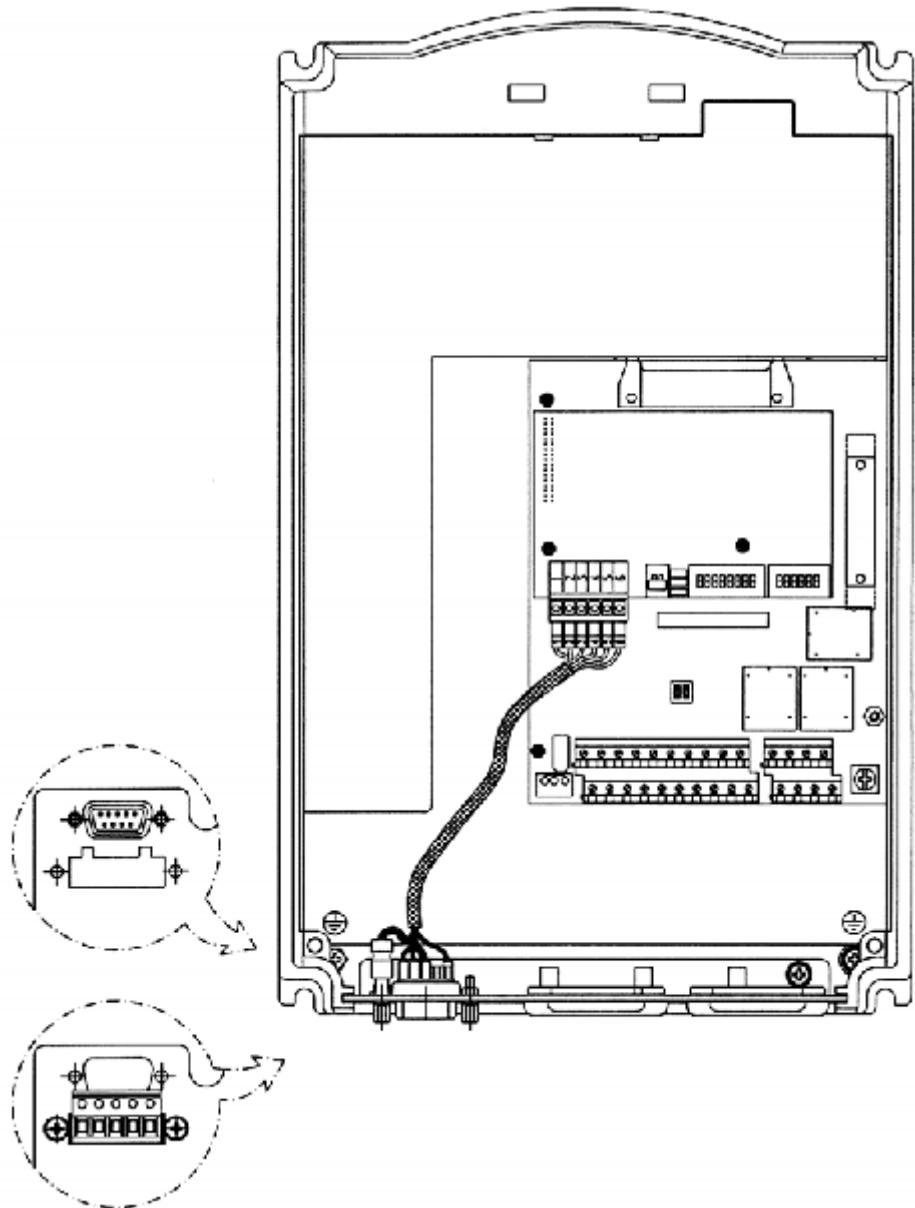

Figure 8.36 - Fastening of the Fieldbus connector
- Fix the Fieldbus connector to the inverter frame by using the 5.9 in (150 mm) cable (see figure 8.36).